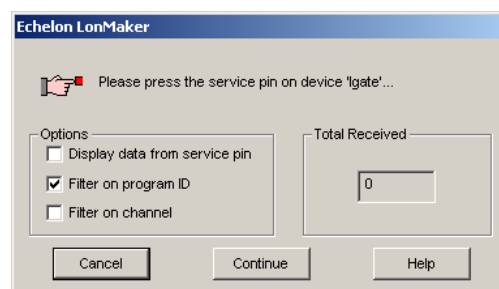

Figure 70: Wait for the service pin from the device.
7. Then the service pin requestor opens as shown in Figure 70. Press the service pin on the replacement L-Gate on the correct port. You can also send the service pin using the Web interface (see Section 4.1).